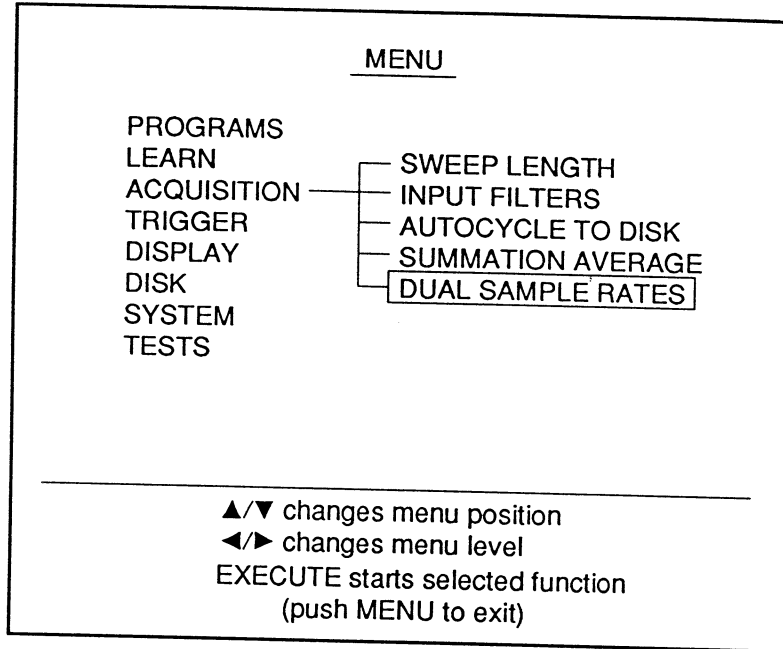

Figure 1 - Dual Sample Rates
1. Press the Menu button. The Menu screen appears (Figure 1).
2. Using the Cursor buttons, select the ACQUISITION menu and then select DUAL SAMPLE RATES as shown in Figure 1.
6. To set the Time Per Point value for channels 1 and 2, highlight the left value (Figure 1) by pressing the Select button and then adjusting the Time control knob until the desired setting appears.
For example, if you set channel 1 to 500 nS and channel 3 to 1.0 μ S as shown in Figure 1, select channel 1 as the trigger source.